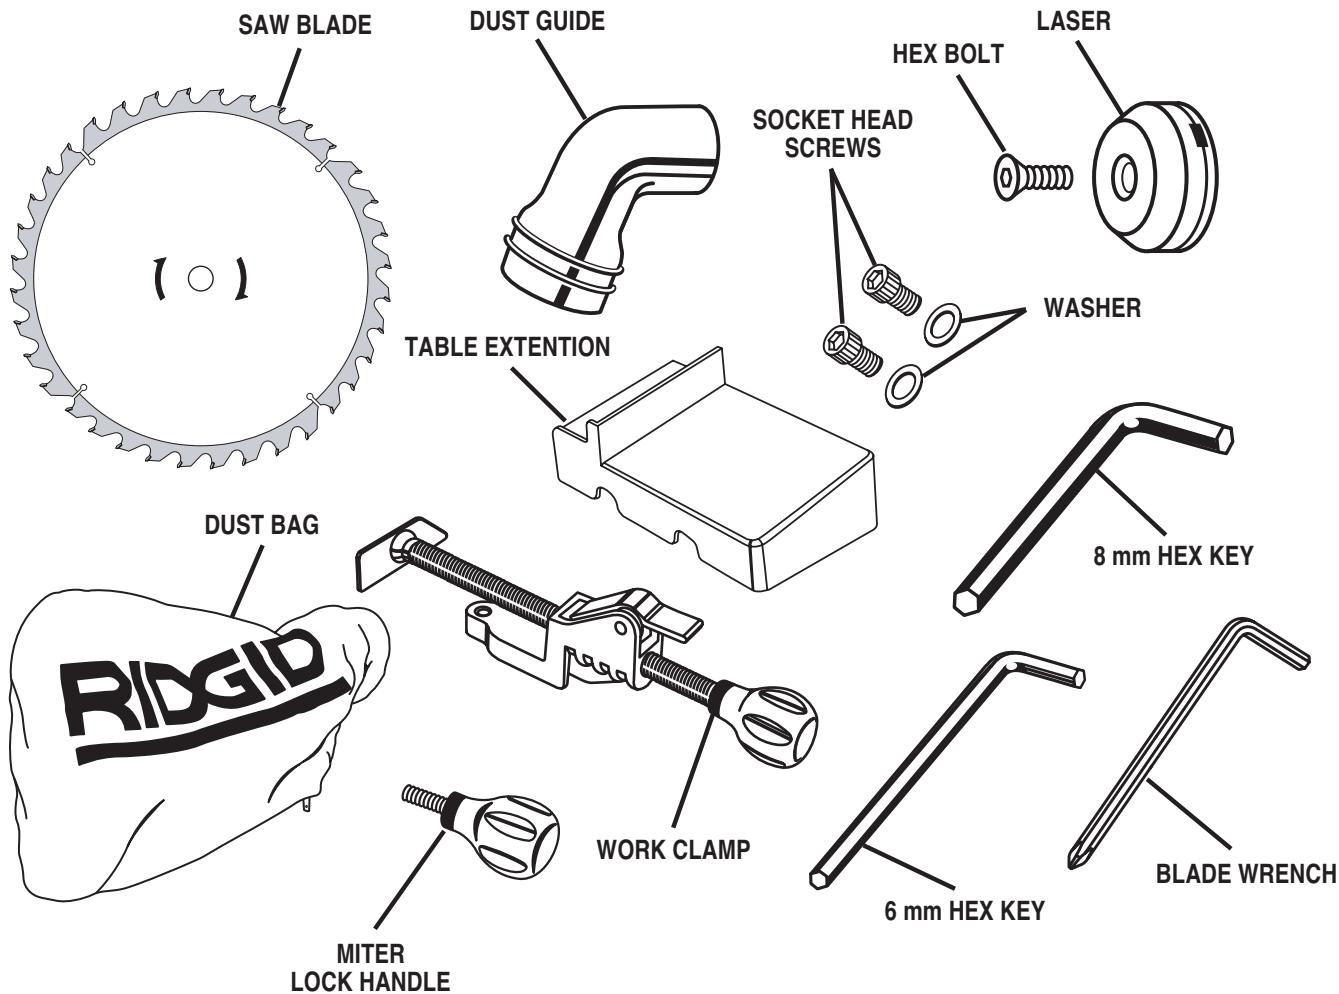

Fig. 1
- Remove all loose parts from the carton. Separate and check with the list of loose parts. See *Figure 1*.